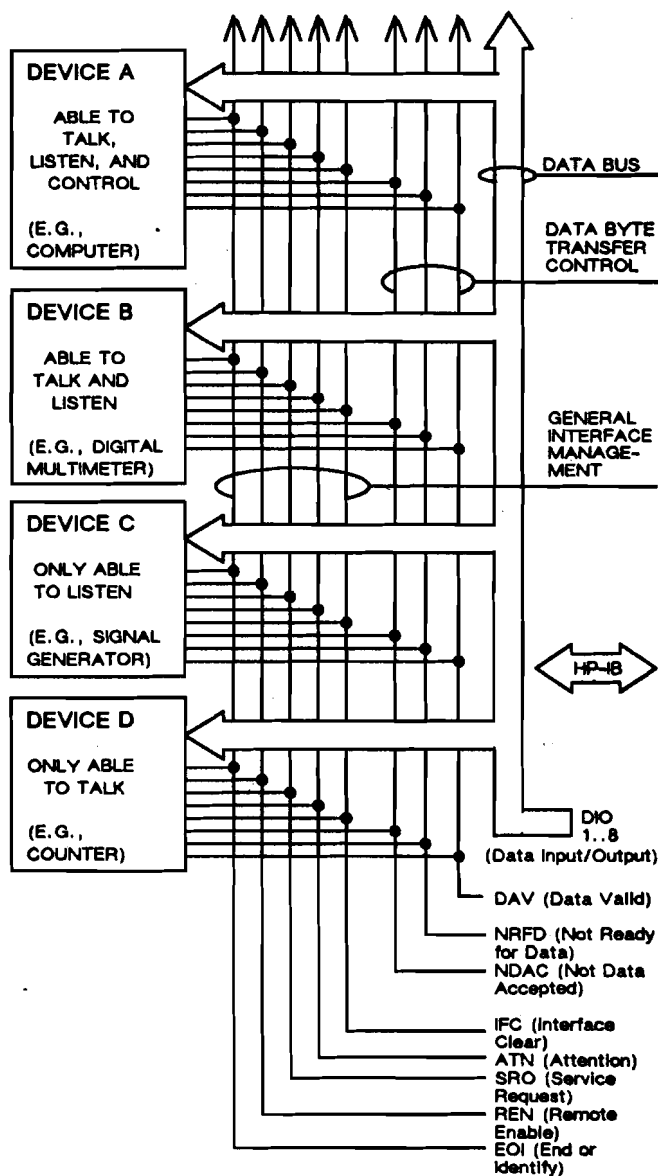

Figure 4-2. HP-IB Interface Bus Concept
The 12009A HP-IB Interface connects to the signal lines shown in Figure 4-2, acting as DEVICE A. Eight bidirectional data bus lines carry coded messages in bit-parallel, byte-serial to/from other devices on the bus, with each byte transferred from one "talker" to one or more "listeners". Data is exchanged asynchronously using interface messages to set up, maintain, and terminate an orderly flow of device-dependent messages. Three data byte transfer control lines control the transfer of each byte of coded data on the eight data lines. The five general interface management lines ensure an orderly flow of information within the HP-IB.
**Bus Signal Lines:** See Figure 4-2, page 4-13.